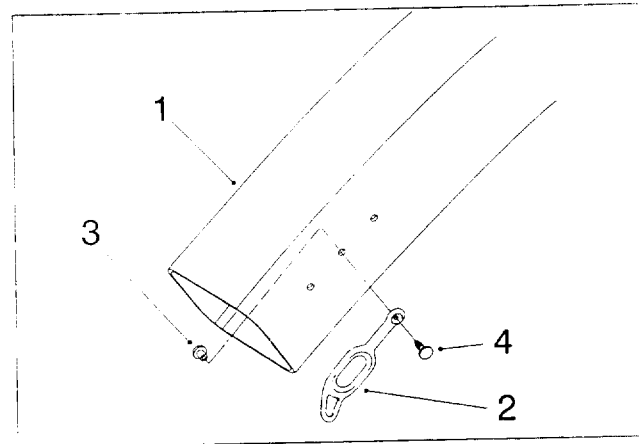

Figure 8
1. Attach the rubber latch to the **middle** hole in the discharge tube using the plastic two-piece fastener (Fig. 8). Install the flanged spacer through the hole in the discharge tube from the inside. Place the rubber latch (grip tab up) over the spacer shaft.